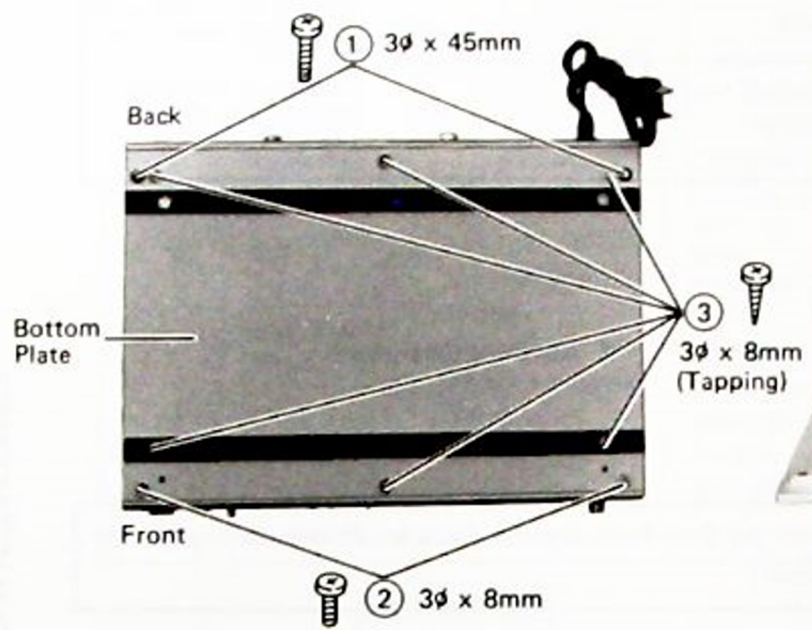

Figure 10.
1. Remove 2 Screws ①. See figure 10.
2. Remove 2 Screws ②. See figure 10.
1. Remove the Panel. See figure 10 and 11.
2. Remove the 6 Screws ③. See figure 10.